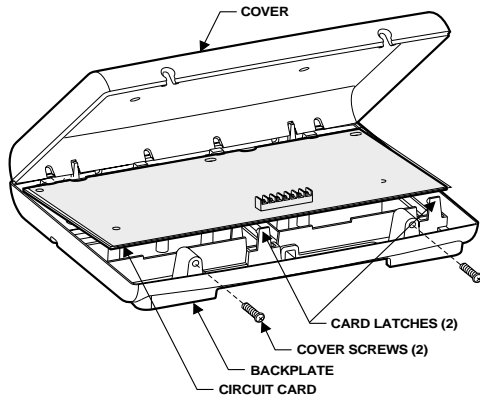

Figure 2. Removing Plastic Case Cover and Circuit Card
2. Remove the module cover and circuit card and set them aside (Figure 2).